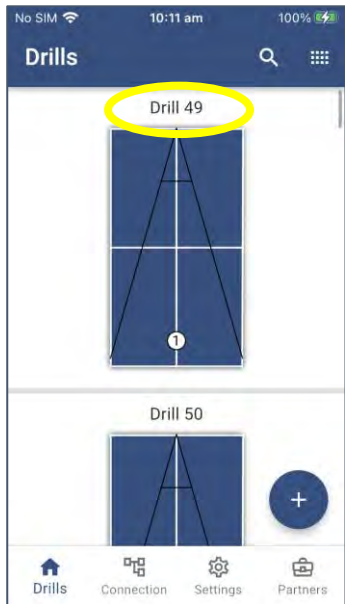

Figure 3-37
1. Choose a Drill from the main Drills screen (Example: Drill 49) that you'd like to change the name of. (Figure 3-37)